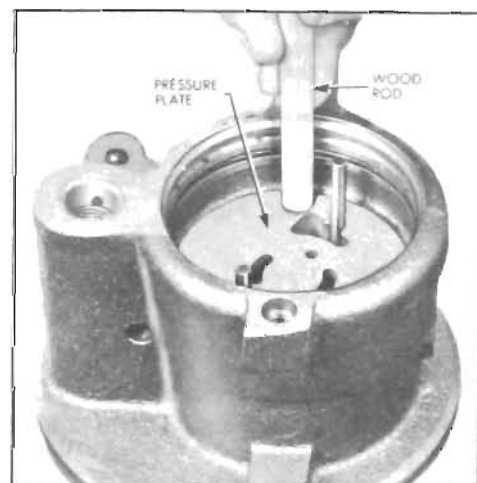

Figure 8-63—Seating Pressure Plate in Housing
9. Lubricate the outside diameter and chamfer of pressure plate with petroleum jelly and install on dowel pins with ported face toward pump ring. Dowel pins fit into slots in plate that are nearest outside diameter of plate. Use a soft plastic or wood rod and lightly tap around outside diameter of pressure plate to seat it. See Figure 8-63. Pressure plate will travel about 1/16" to seat. Never press or hammer on the center of pressure plate as this will cause permanent distortion and result in pump failure.